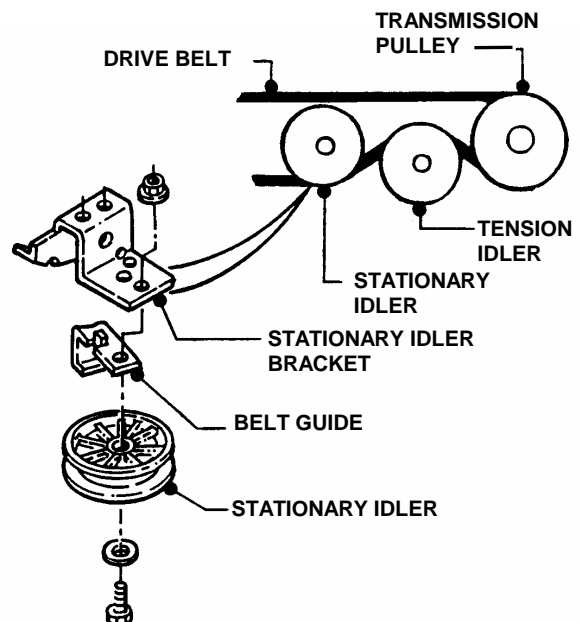

FIGURE 4.31
3. Route belt through stationary and tension idlers. See Figure 4.31.